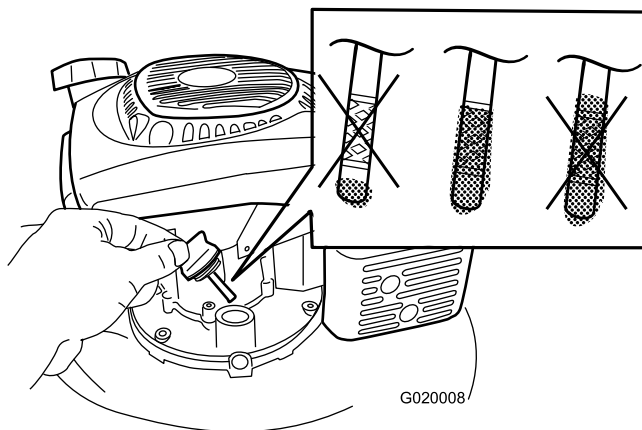

Figure 8
1. Remove the dipstick, wipe it clean, and insert it into the oil filler neck, but **do not** screw it in (Figure 8).
2. Remove the dipstick and check the oil level (Figure 8). If the oil level is below the Add mark on the dipstick, **slowly** pour oil into the oil-fill hole to raise the oil level to the Full mark on the dipstick. **Do not overfill.** (Max. fill: 0.65 l (22 oz.), type: 10W-30 or SAE 30 detergent oil with an API service classification of SJ or higher.)